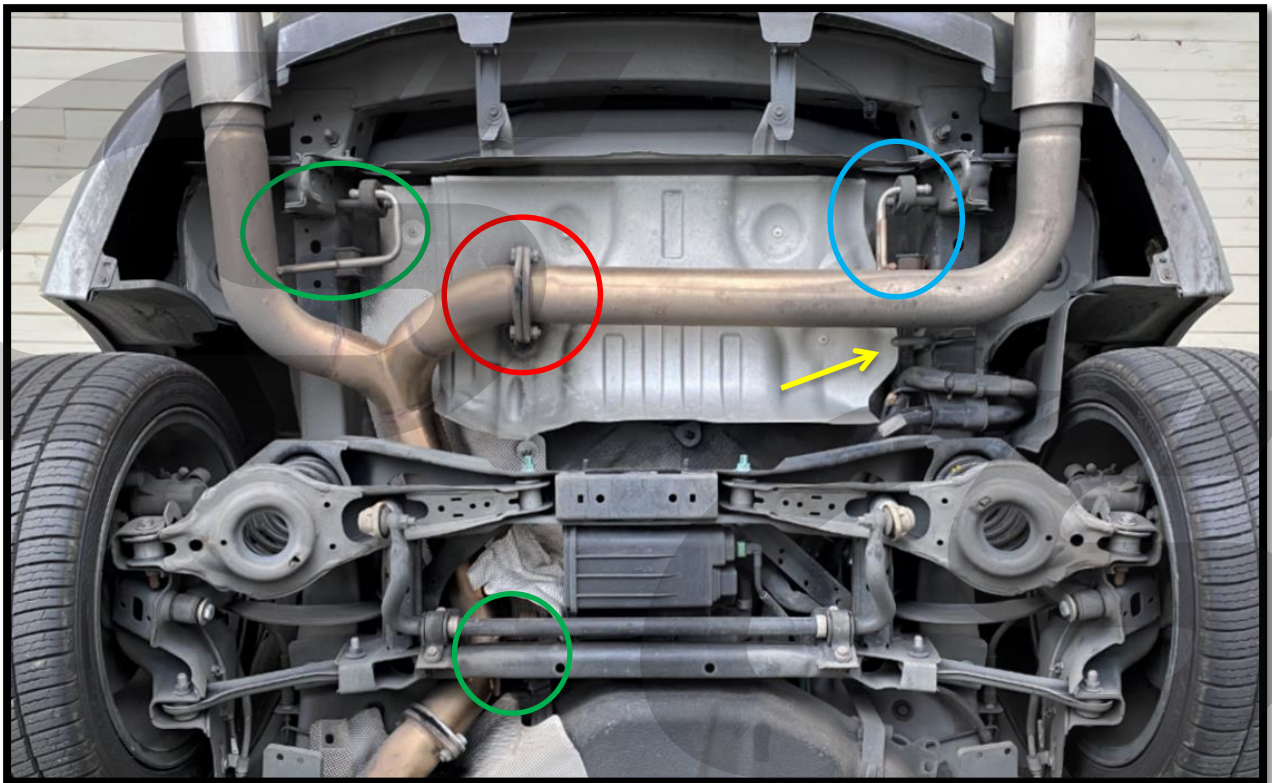

Figure 4b
- e) Using a 17mm, socket and wrench, remove the bolts connecting the passenger side tip section from the driver's side tip section. Location circled in red in Figure 4b.
- f) Remove the exhaust hanger on the passenger side tip section using channel lock pliers or exhaust hanger pliers. Have a friend support the exhaust during removal. The passenger side tip section can then be removed from the vehicle. Hanger shown circled in blue in Figure 4b. OEM and some aftermarket exhausts will also use hangers shown in Figure 4b with yellow arrows.
- g) Remove the two exhaust hangers holding the driver side tip section using channel lock pliers or exhaust hanger pliers. The driver side tip section can then be removed from the vehicle. Hangers shown circled in green in Figure 4b.